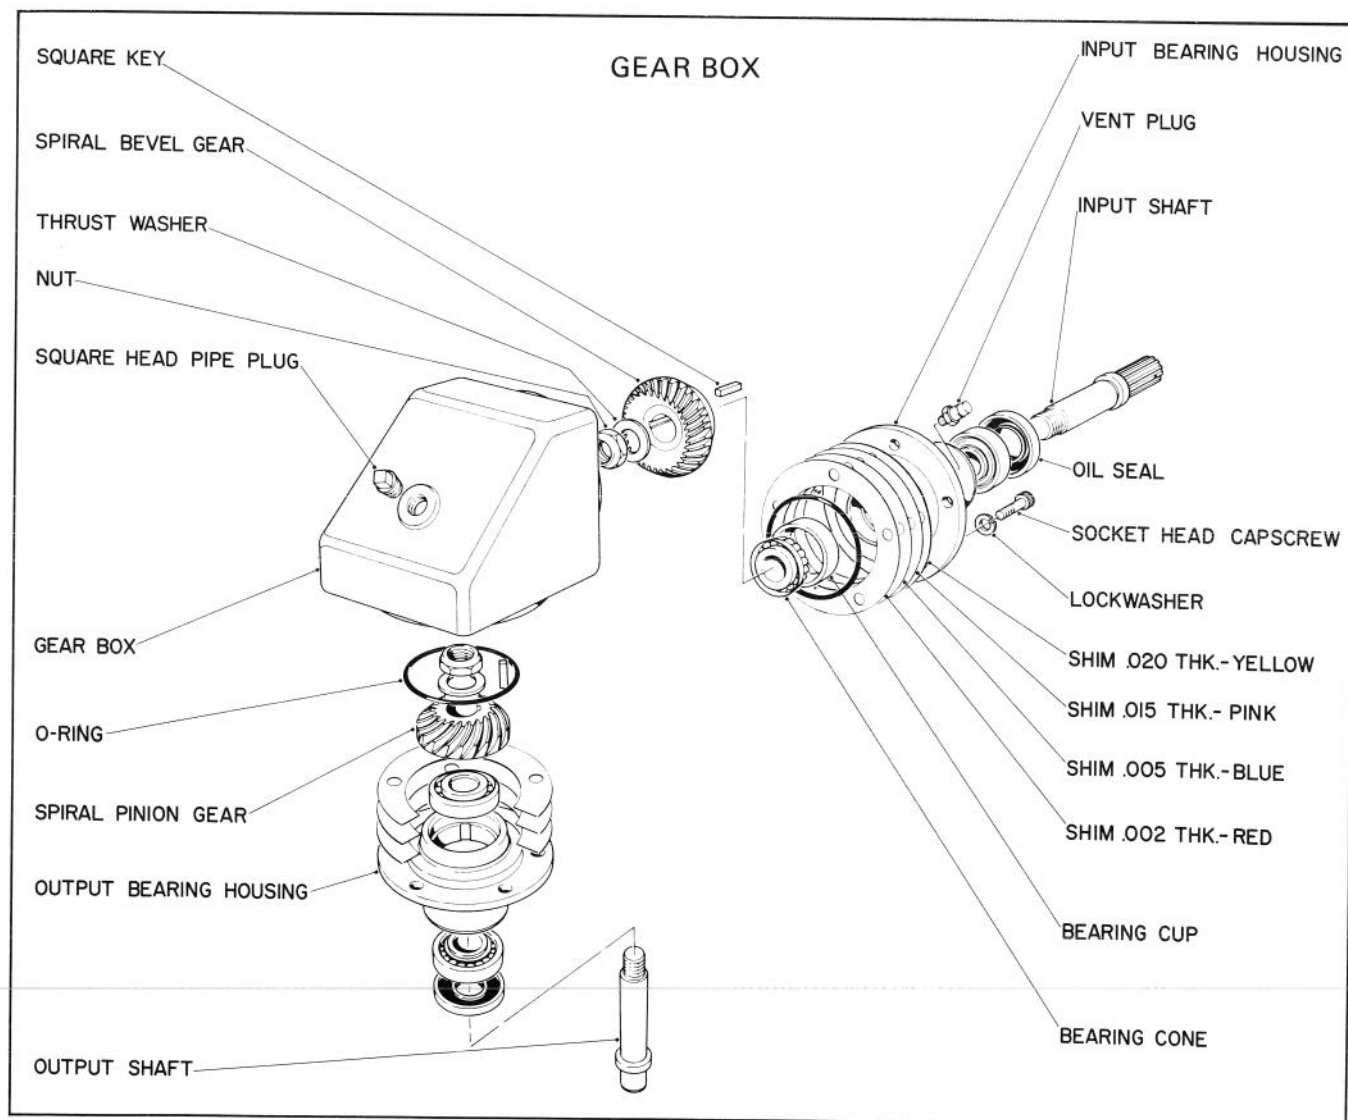
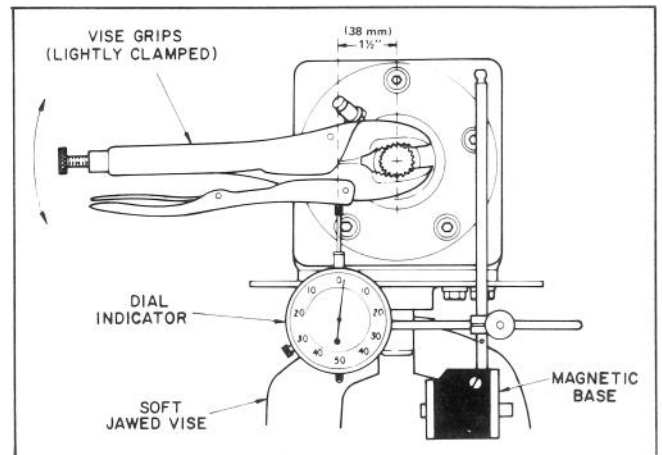

Figure 33
Figure 34
2. Remove pipe plug from gear box and drain oil out of gear box (Fig. 33).
1. Remove five (5) capscrews securing input housing assembly; tap input housing with soft-faced hammer and pull on input shaft to remove from gear box (Fig. 33).
2. Remove five (5) capscrews securing output bearing housing to gear box, tap housing with soft-faced hammer and pull on output shaft to remove assembly from gear box (Fig. 33).
4. Use a bearing separator to remove gear from shaft. Remove square key (Fig. 33).
5. Support mount flange of input housing in arbor press and press shaft, threaded end up, out of housing (Fig. 33).
7. Use procedures 3 through 6 to disassemble the output shaft assembly (Fig. 33).
8. Discard and replace the shaft, nut, shaft seal and housing O-ring for both assemblies (Fig. 33). Discard and replace all worn and damaged parts.
1. Press bearing cups into bearing housing with small I.D. of cups toward inside of housing (Fig. 33).
3. Press on the remaining bearing cone. Install square key and press on gear. Use Loc-tite 242 or 601 on shaft and gear. Install thrust washer and nut (Fig. 33).
5. Apply No. 2 Permatex to outer surface of seal, apply oil to seal lips and press new seal into housing with seal lips facing inward (Fig. 33).
1. Install shims on housing (Fig. 33).
2. Oil O-rings, install on housing (Fig. 33) and insert both shaft assemblies into gear box (Fig. 33).
4. Clamp the output shaft of gear box in a soft-jawed vise, lightly clamp a pair of vise-grip pliers to the input shaft, mount a dial indicator with magnetic base to the vise, move vise grips up and down and check input gear backlash (Fig. 34). Backlash should be .005-.010 inch (0.13-0.25 mm) with indicator positioned one and one-half inch (38 mm) from center of shaft (Fig. 34). If backlash is incorrect, remove input housing assembly and add or subtract shims as necessary. Repeat procedures until correct backlash is obtained. Shims are available in .002, .005, .015 and .020 inch (0.051, 0.13, 0.38 and 0.51 mm) sizes (Fig. 33).